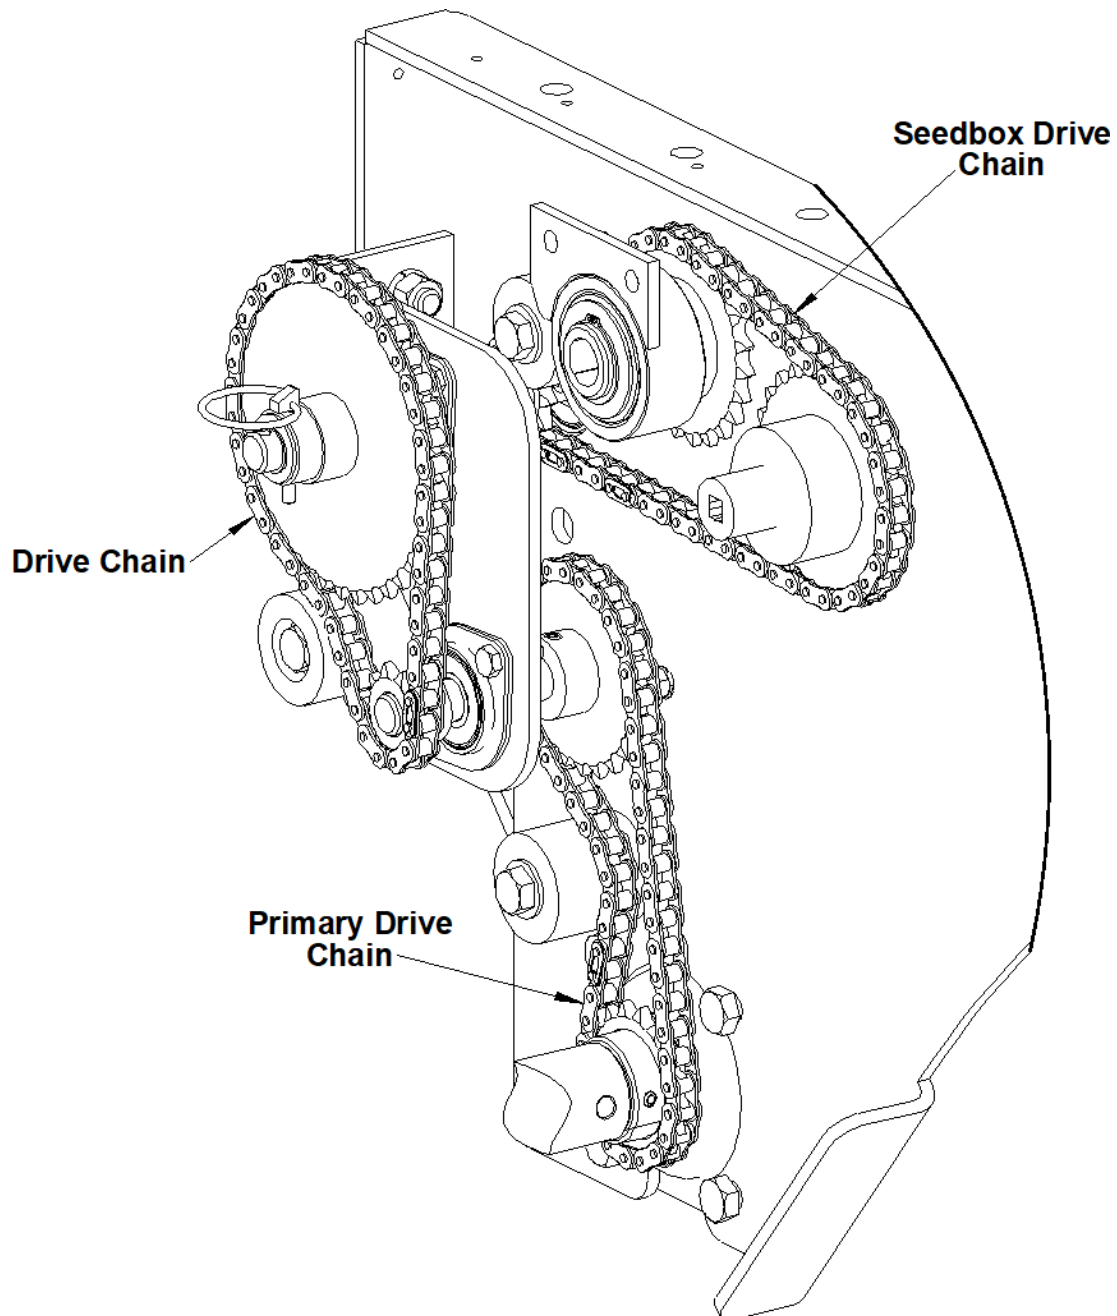

Figure 4-5: Chain Maintenance
- For best penetration, lubricate chain immediately after use while chain is still warm. See Figure 4-5.